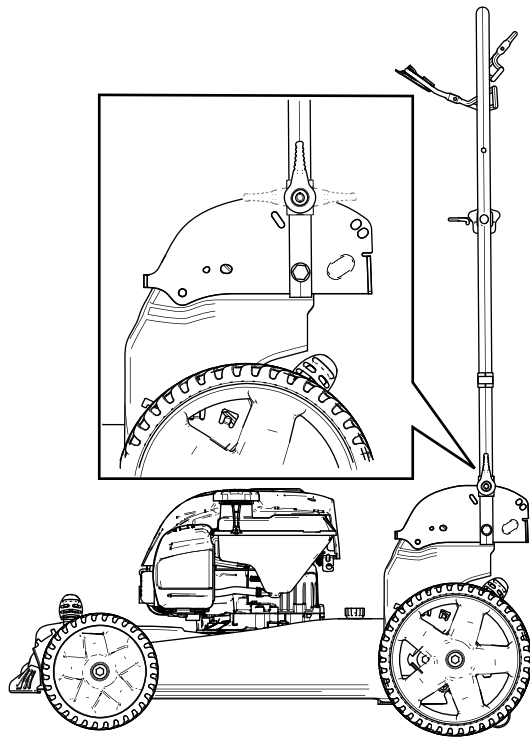

Figure 29
3. Fold the handle forward either to the vertical position or the fully forward position as shown in Figure 29.